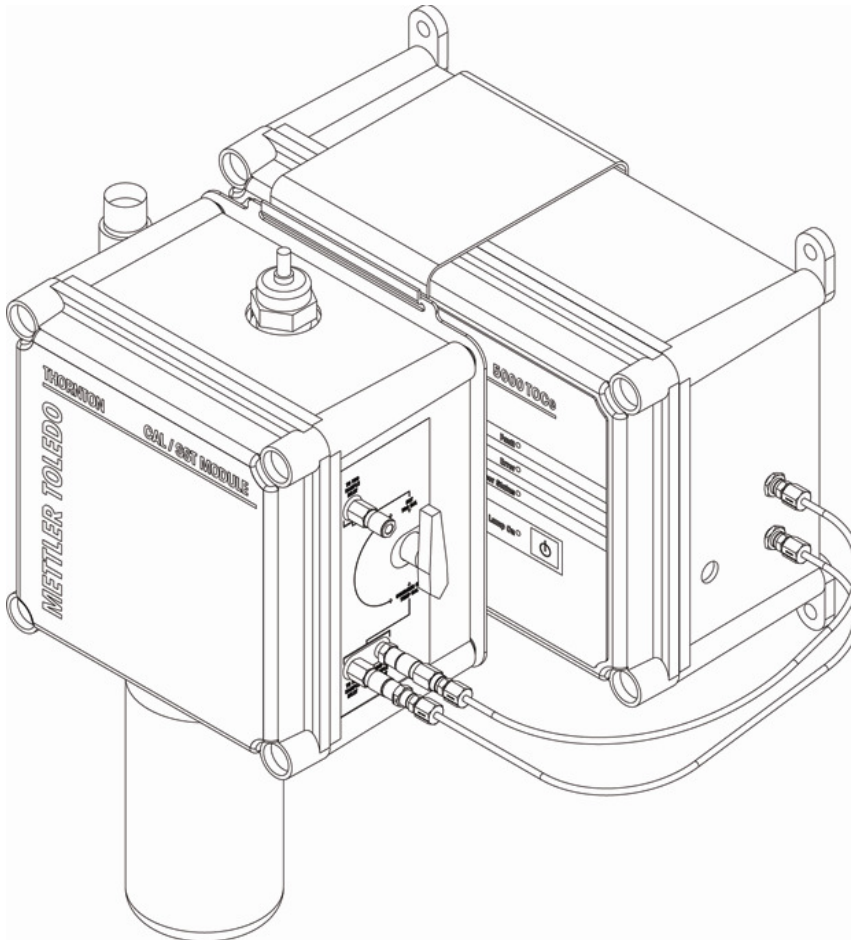

Figure 1. CAL/SST Pump Module Installation and Setup
1. Remove the mounting bracket from the carrying case and place on top of the 4000TOC Sensor to be tested. See Figure 1.
6. Set selector valve on CAL/SST pump module to "Cond/Res CAL and Temp CAL" position. Figure 1 shows the proper installation of the CAL/SST pump module.